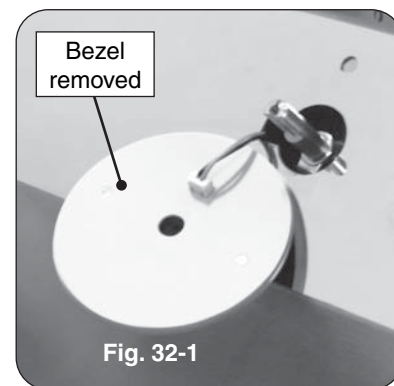

Fig. 32-1
4. Slowly lift the lighted bezels to clear the valve stems, and let rest as shown in Fig. 32-1.